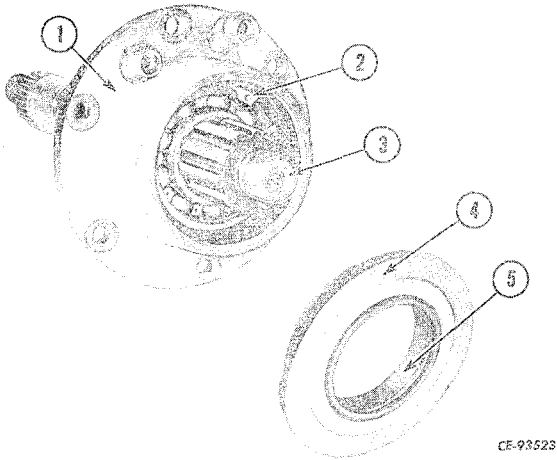

Figure 3-39
Install the shaft and bearing assembly (3, Fig. 3-39) in the stator shaft (1) and secure with retaining ring (2).